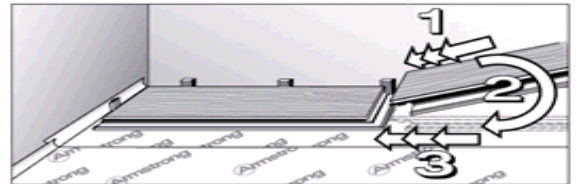

Fig. 9
3. Install second and subsequent full pieces in the first row by aligning short ends of boards and locking into place (Fig. 9).
4. Use spacers along all sides that butt up against walls to maintain 1/4" (6.35 mm) to 1/2" (12.7 mm) expansion zone (Fig. 9 and 10).